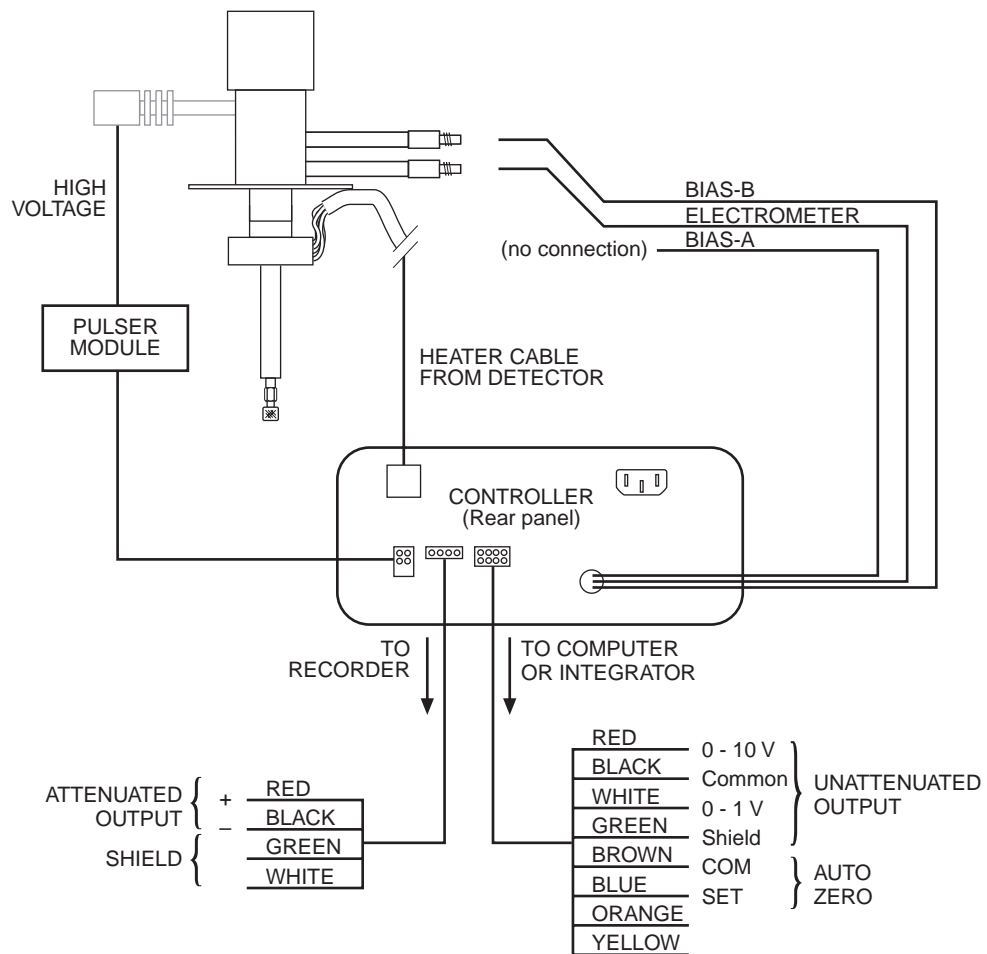

Figure 4: Electrical connections
1. Referring to **Figure 4** as necessary, connect **BIAS-B** cable to the top electrode and the electrometer cable (**ELECT**) to the bottom electrode. The **BIAS-A** remains disconnected.